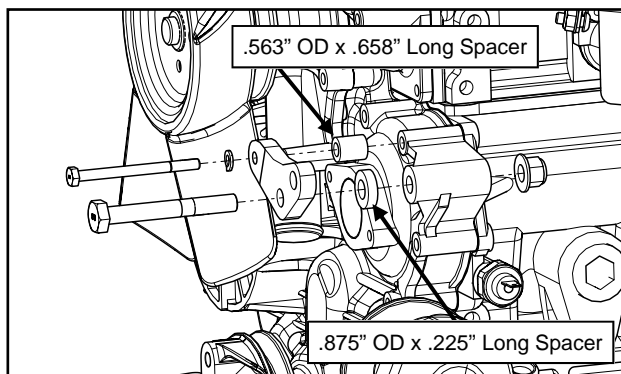

Fig. 2.2 (Lower Alternator Bracket & Hardware)
2.6 Torque the lower alternator bracket Hardware. Reference Fig. 2.2 on previous page.